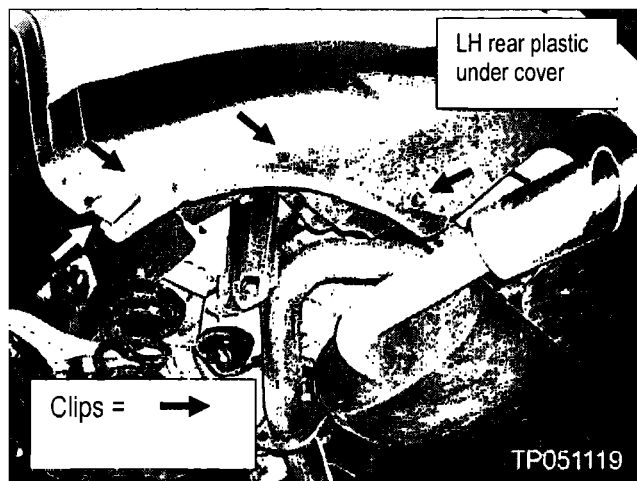

Figure 4
8. Below the plastic cover you just removed: release clips and remove the driver's (LH) side rear plastic under cover (see Figure 4).